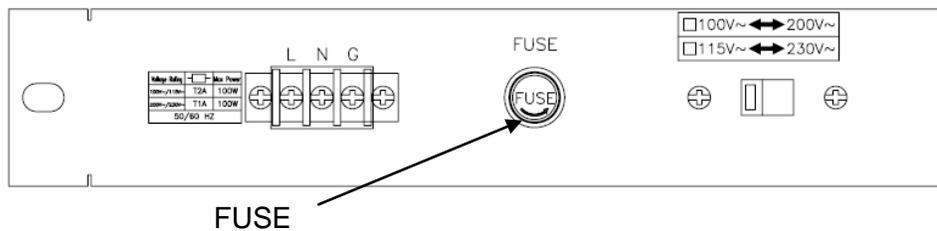

Fig 2-2 FUSE RECEPTACLE
- 2.3.2. The AC line fuse is located below the AC line receptacle see Fig 2-2. Use a small Screwdriver to extract the fuse holder, to change a new one. Change an Appropriate specification fuse which indicated in Table 1-1.